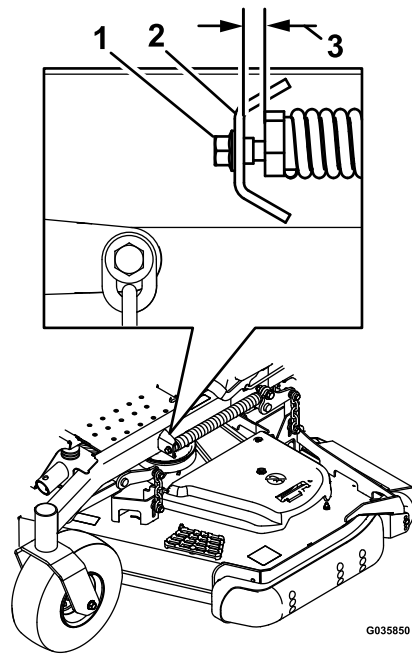

Figure 121
- B. Slowly loosen the adjusting screw on the lift-assist spring until you can remove the screw (see Figure 121).